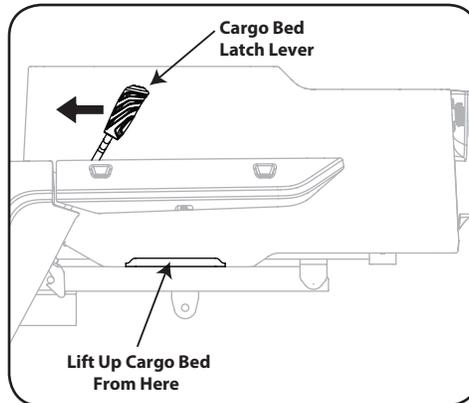

Figure 4-5
- For light loads, unlatch cargo bed by pushing forward on the cargo bed latch lever. While holding the latch lever forward with one hand, lift the cargo bed with your other hand. See Figure 4-5.